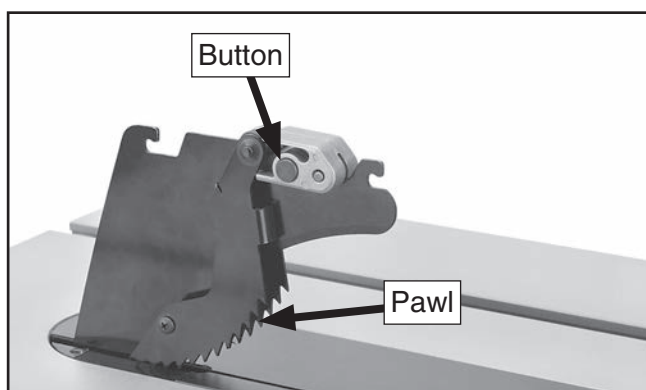

Figure 67. Button for removing pawls.
2. Press the button (**Figure 67**) on the block that holds the pawls, then remove the pawls from the spreader.
3. Press the button on the pawl block shown in **Figure 67**, then pivot the pawls down until they lock into place.